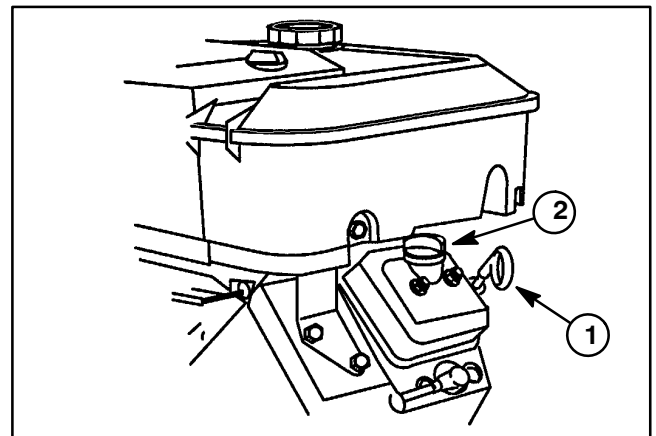

Figure 8
6. Pour oil into fill opening until the oil level is up to the "FULL" mark on the dipstick. Add oil slowly and check level often during this process. **Do not overfill (Fig. 8).**
7. Install filler cap and dipstick firmly in place (Fig. 8).
4. Pour oil into fill opening until the oil level is up to the "FULL" mark on the dipstick. Add oil slowly and check level often during this process. **Do not overfill (Fig. 8).**